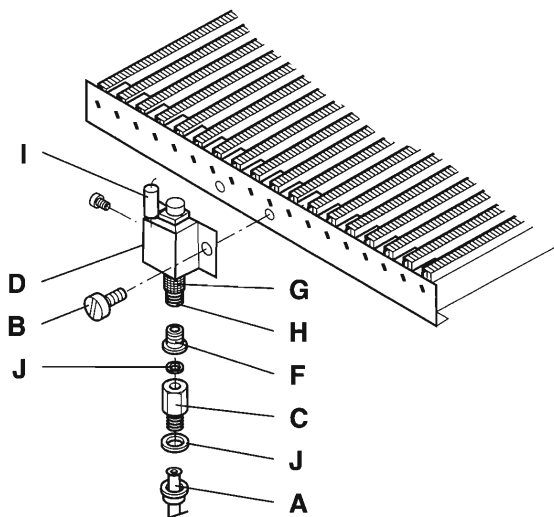

Figure 14
SECTION 4 : TO REPLACE PILOT ASSEMBLY ELECTRODE (Figure 14)
- 4.6. The pilot assembly including the electrode may now be stripped to its component parts Figure 14 in order to clean/replace complete pilot assembly (C, F, G, H) and electrode assembly I.
- 7.3. Disconnect the electrode assembly by unscrewing the fixing screw of the electrode bracket (Figure 14).
- 7.5. Undo the union A (Figure 14). Take care of the sealing washer J.